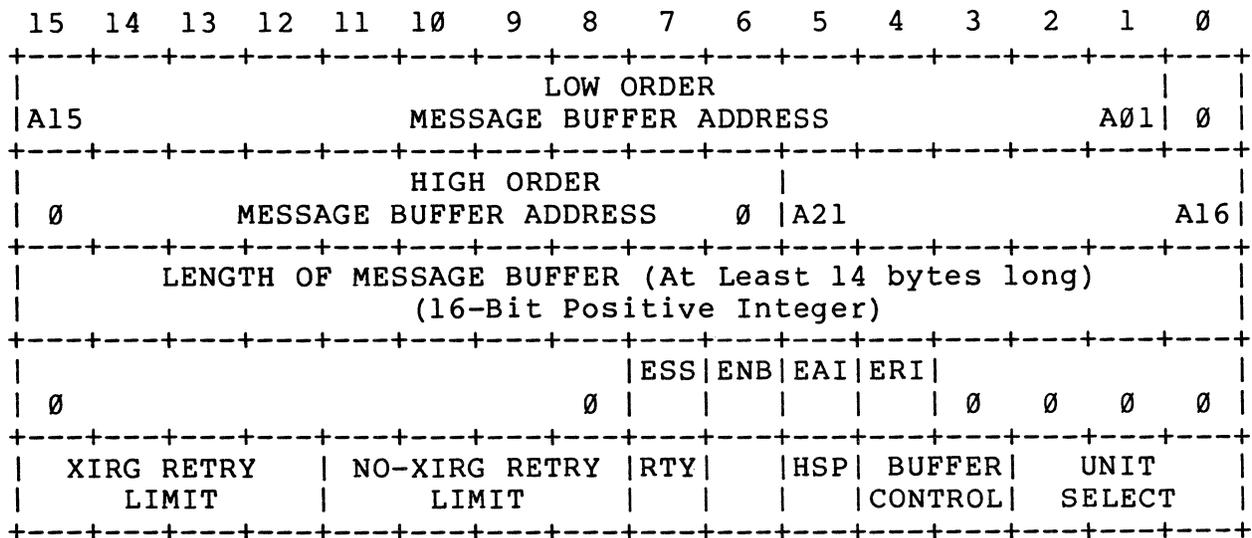

Figure 3-22 Write Characteristics Command Format
3.3.4.4 Write Characteristics Command -- Figure 3-22 illustrates the Write Characteristics command packet and data format. The objective of this packet is to inform the TSV05 subsystem of the location and size of the Message Buffer in the CPU memory space. The Message Buffer must be at least seven contiguous words long (eight when the Extended Features option is enabled) and located on a word boundary.